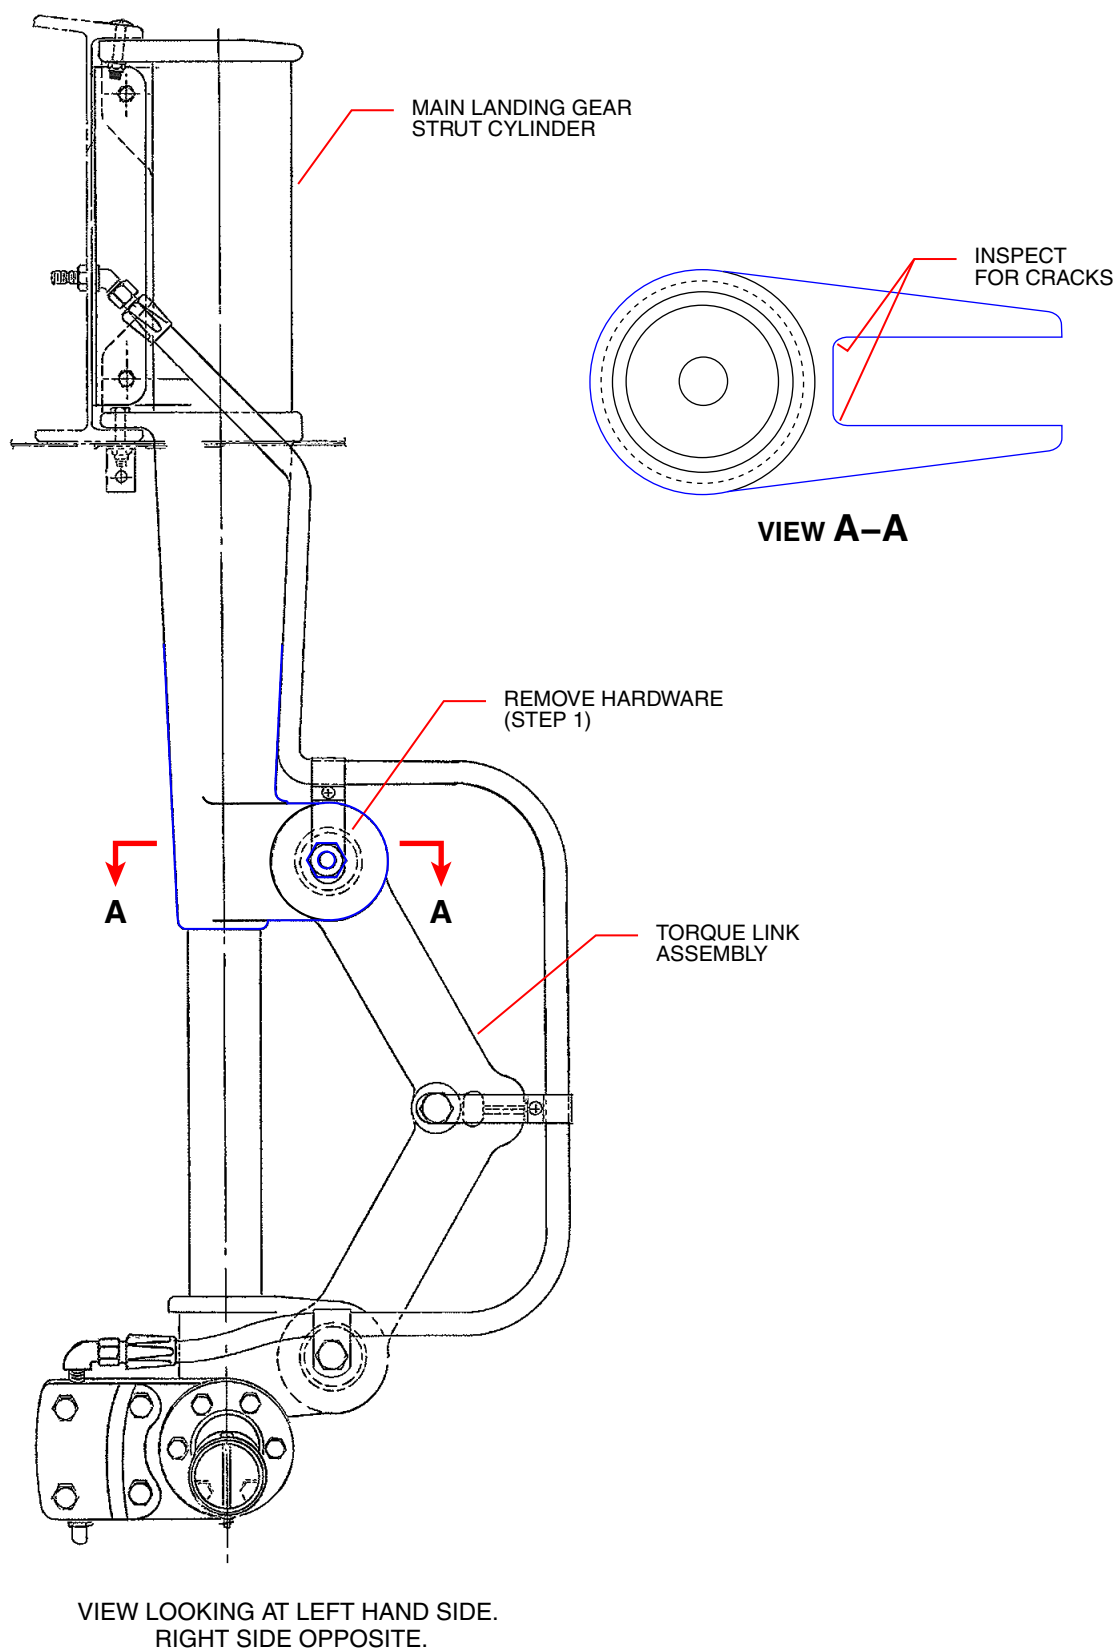

Figure 1
1. Disconnect the torque link assembly by removing the cotter pin, nut, washers and bolt at the location indicated in Figure 1. Discard the cotter pin. Note the arrangement of all hardware, including shims and spacers, for reinstallation. To provide access for this inspection, rotate the torque link assembly away from the torque link attach lugs.
2. Thoroughly clean the area to be inspected as indicated in Figures 1 and 2, using a suitable cleaner.
3. Using a 10X power magnifying glass, visually inspect the radii of the main landing gear strut cylinder's torque link attach lugs for cracks. Refer to Figures 1 and 2 for the inspection locations. If no cracks are found by visual inspection, proceed to liquid penetrant inspection per Chapter 5, Section 5, of FAA Advisory Circular AC 43.13-1B, to check for cracks. Strip the paint and primer from the areas to be inspected using a commercially available chemical paint stripper, taking care to only remove paint and primer from the inspection areas.